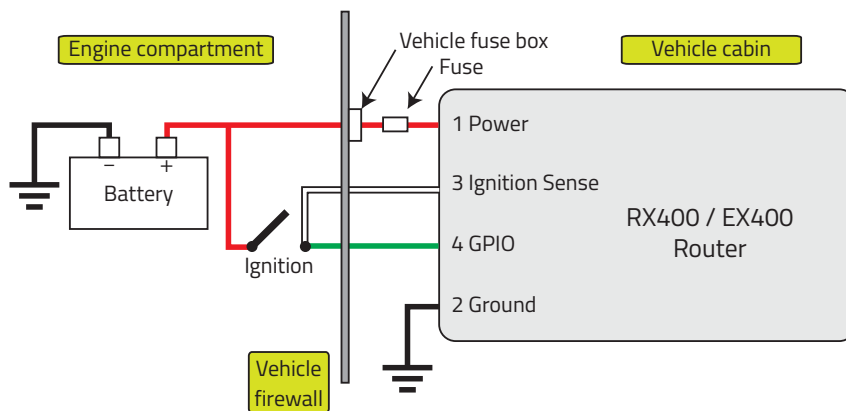

Figure 2-7: Vehicle Installation Wiring Diagram — Timer-driven Activation
- The vehicle ignition must be connected to the router's I/O pin (see Figure 2-7).